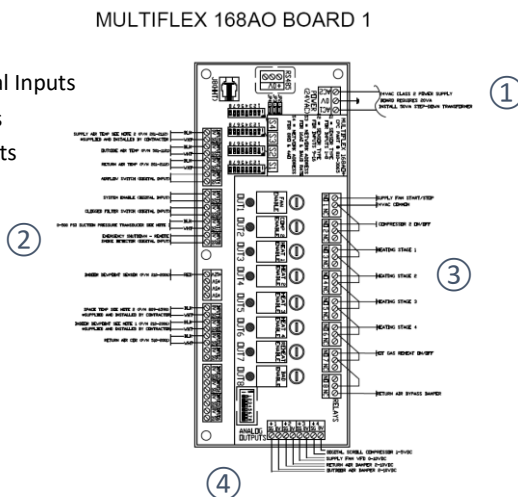
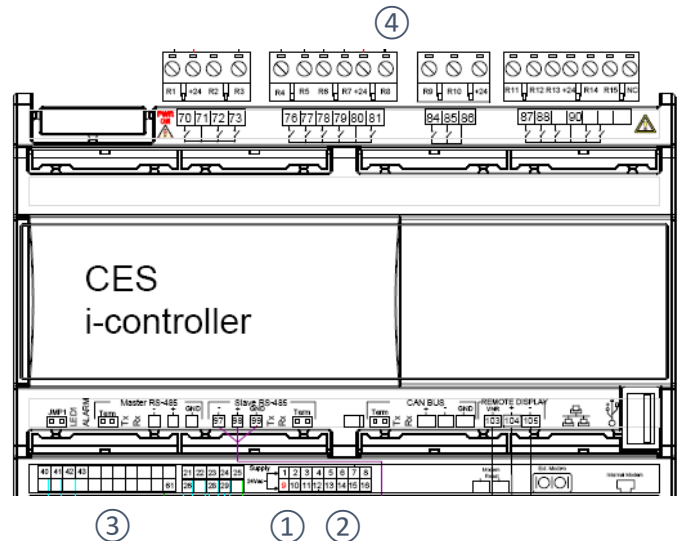

Figure 5. Emerson Multi-Flex 168AO board
Figure 7. Flö i-Controller
The MF168AO board has four analog outputs. Each output will have a white signal wire connected to SG point and black common wire connected to the 0V point. See Figure 5. I-Controller point 21 – 30 are the analog outputs for devices requiring an analog 0-10V run signal. See Figure 7.
MF168AO has eight relay output terminals. See Figure 5. Each output terminal has a normally open (NO) signal and a +24VAC common (C) wire connection.
After the +24VAC common connections are terminated, using Table 5, transfer each control signal point to the corresponding i-Controller output point located on pins 70 - 93. See Figure 7. Transfer one signal wire at a time from the old controller to the new point location on the i-Controller.